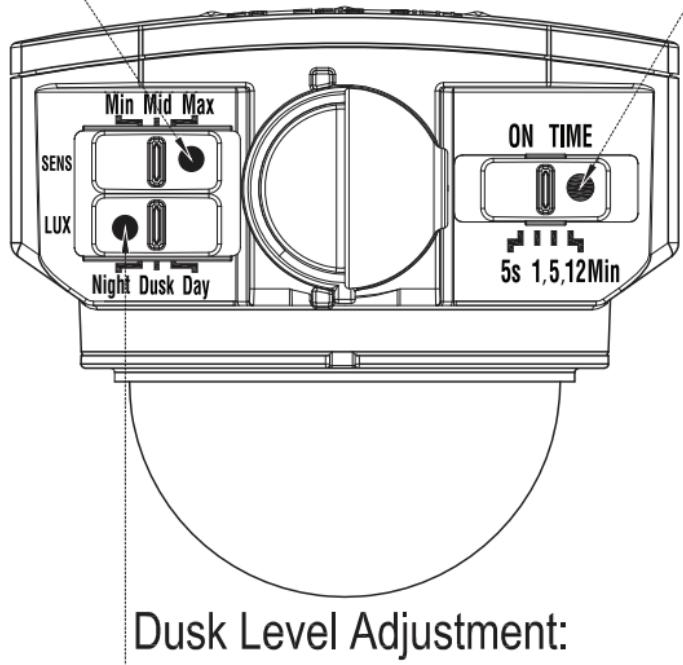

FIGURE 4
1. Set the three adjustment controls on the bottom of the sensor, (see **Figure 4** on page 10) to the following positions:
Once the walk tests are completed, the unit can be switched to automatic operation. The TIME setting controls how long the unit remains illuminated following activation and after all motion ceases. The minimum time (slide switch) is approximately 5 seconds, the maximum time (slide switch) is approximately 12 minutes. Set the slide switch control to the desired setting between these limits (see **Figure 4**).